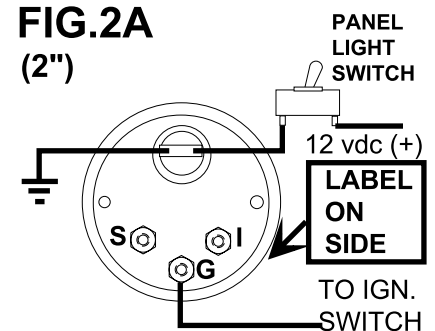

FIG.2B
2. For types shown in Fig. 2B and 2C, run a wire from "IGN" terminal of Gauge to "IGN" terminal of ignition switch or "IGN" terminal of another Gauge.